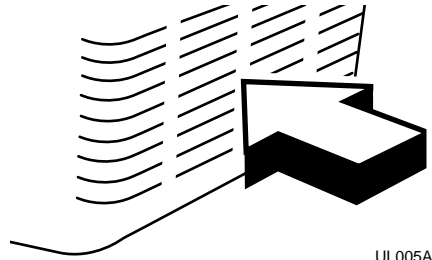

Figure 37
- The front grill should be kept free of dust and lint to permit free air flow to the condenser (see Figure 37). The condenser coil, located behind the front grill, should be cleaned three to four times each year. Use a brush or vacuum cleaner to remove dirt, lint and other accumulations from the condenser coil.